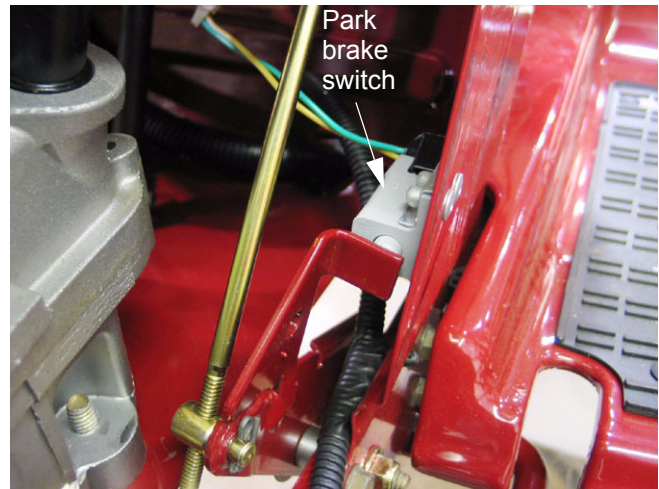

Figure 17.27
- A normally open (NO) set of contacts is in the starter inhibit circuit. When the clutch / brake pedal is depressed, the contacts are closed, power coming from the key switch (key switch in START) through the orange wire is passed on to the PTO switch through the orange wire with black trace.
- A normally closed (NC) set of contacts is in the safety shut-down circuit. A circuit is completed from the M terminal on the key switch, and directly from the magneto primary windings through the pair of yellow wires to the clutch / brake switch through to the yellow wire with black trace when the contacts are closed.
17.27. The **Park Brake Switch** is riveted inside the left front edge of the dash panel. See Figure 17.27.